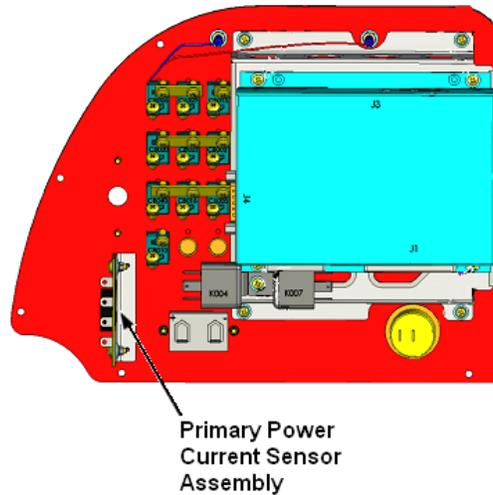

Figure 77-10 Location of the Primary Power Current Sensor
11. Thread wire P10A6 back through the current sensor. See Figure 77-10 for location of the primary power current sensor.